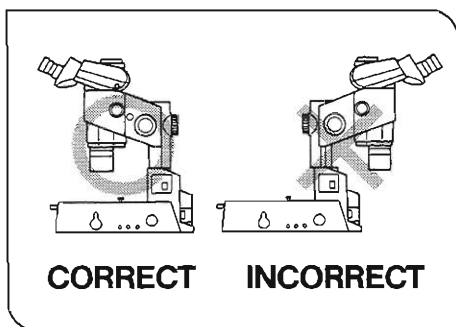

Fig. 1
- When installing the microscope body, install it in the manner indicated by the "O" shown in the illustration on the left. The microscope will tip if it is installed the other way. Also be sure to keep the horizontal swivel angle at 30° or less. (Figs. 1 & 2)